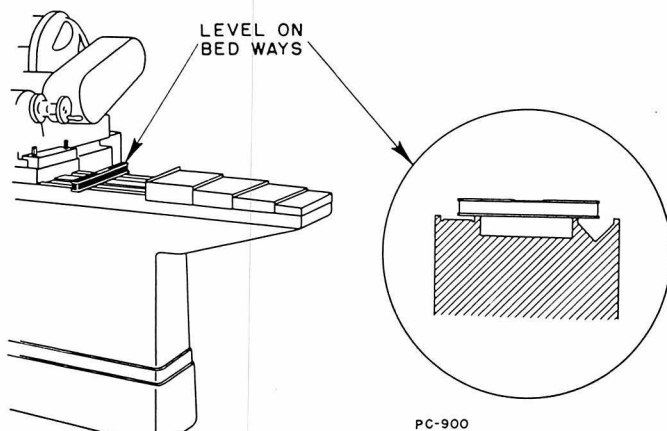

Figure 3
2. Place the leveling instrument on the top finished surfaces of the bed (Figure 3). Be sure that the top finished surfaces of the bed and the leveling instrument are perfectly clean before starting the leveling operation.